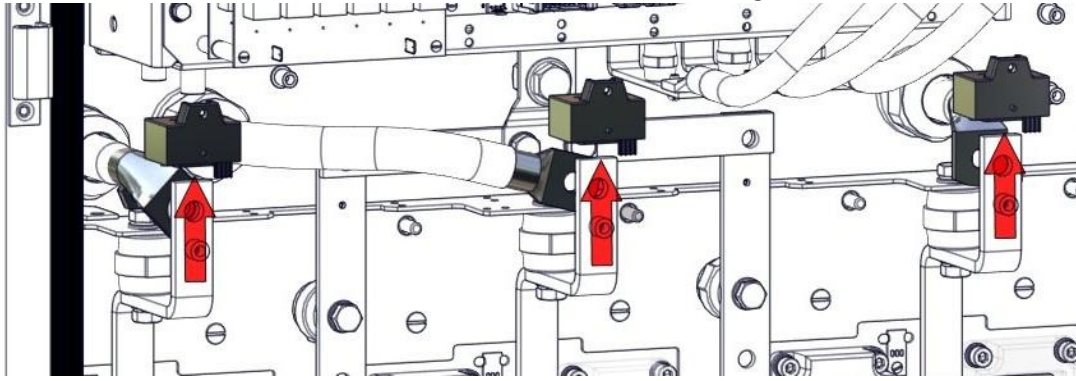

Figure 33 – Uninstall current sensors
3. Uninstall current sensors. For that move cables aside from buses, after that take off current sensors from buses, as shown on the figure 33.